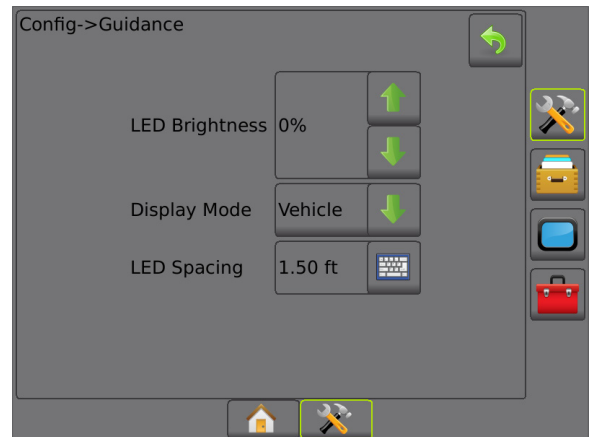

Figure 2 - Guidance configuration
3. Press the Guidance button to view the Guidance configuration screen, Figure 2.